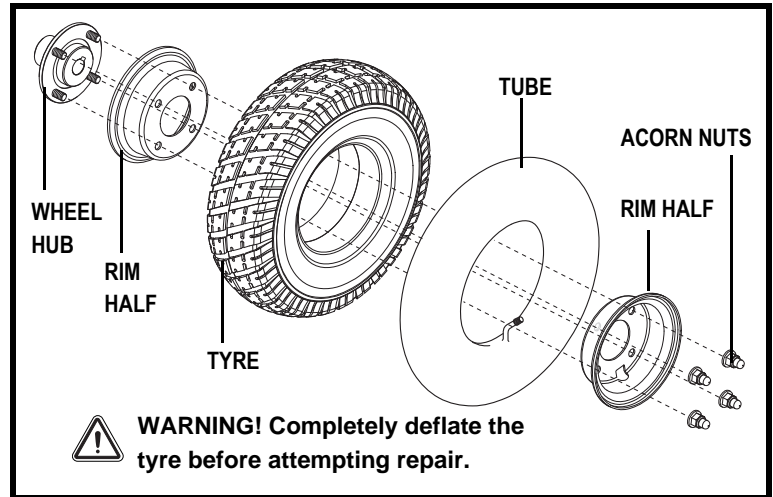

Figure 31. Jazzy Select Series Drive Wheel Disassembled
8. Remove the acorn nuts that fasten the two rim halves together. See figure 31.